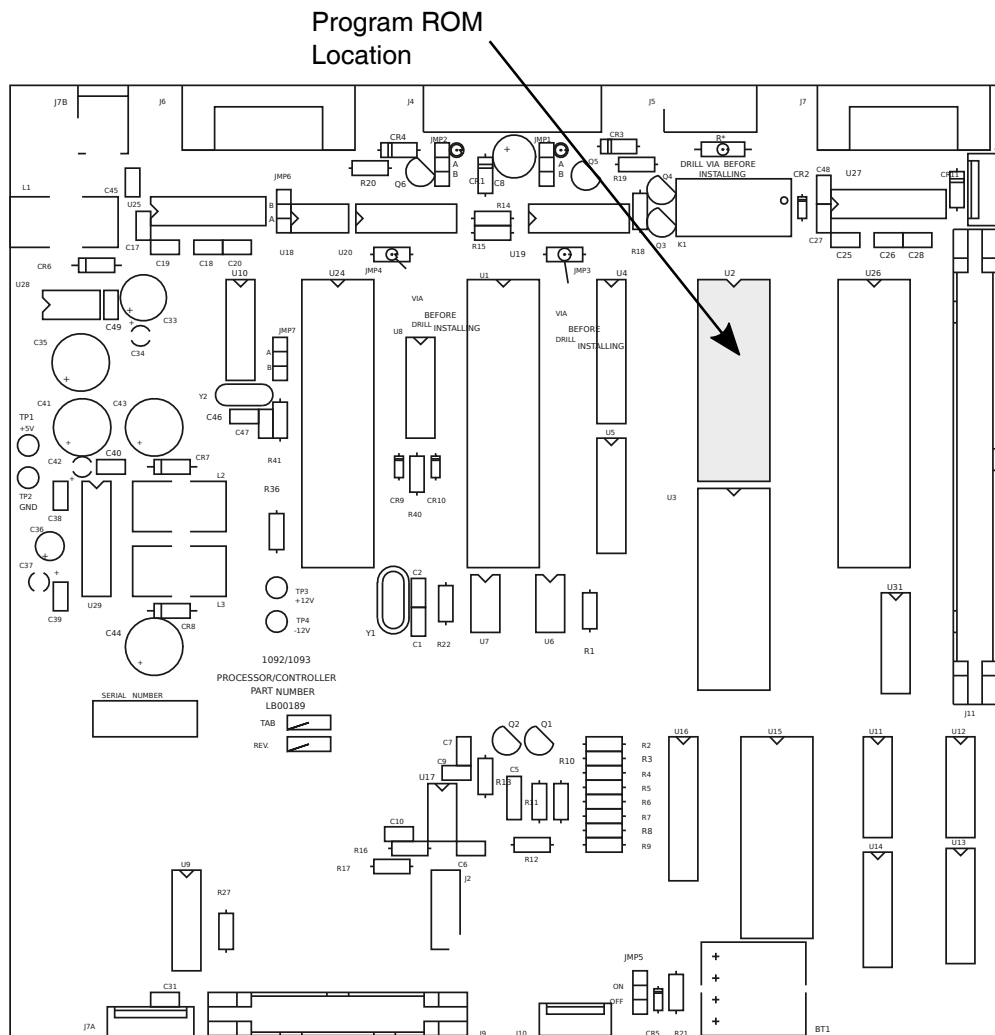

Figure 1: Model 1092/1093 Main Board ROM Location
1. The program ROM is located at U2 (see Figure 1 on page 4).